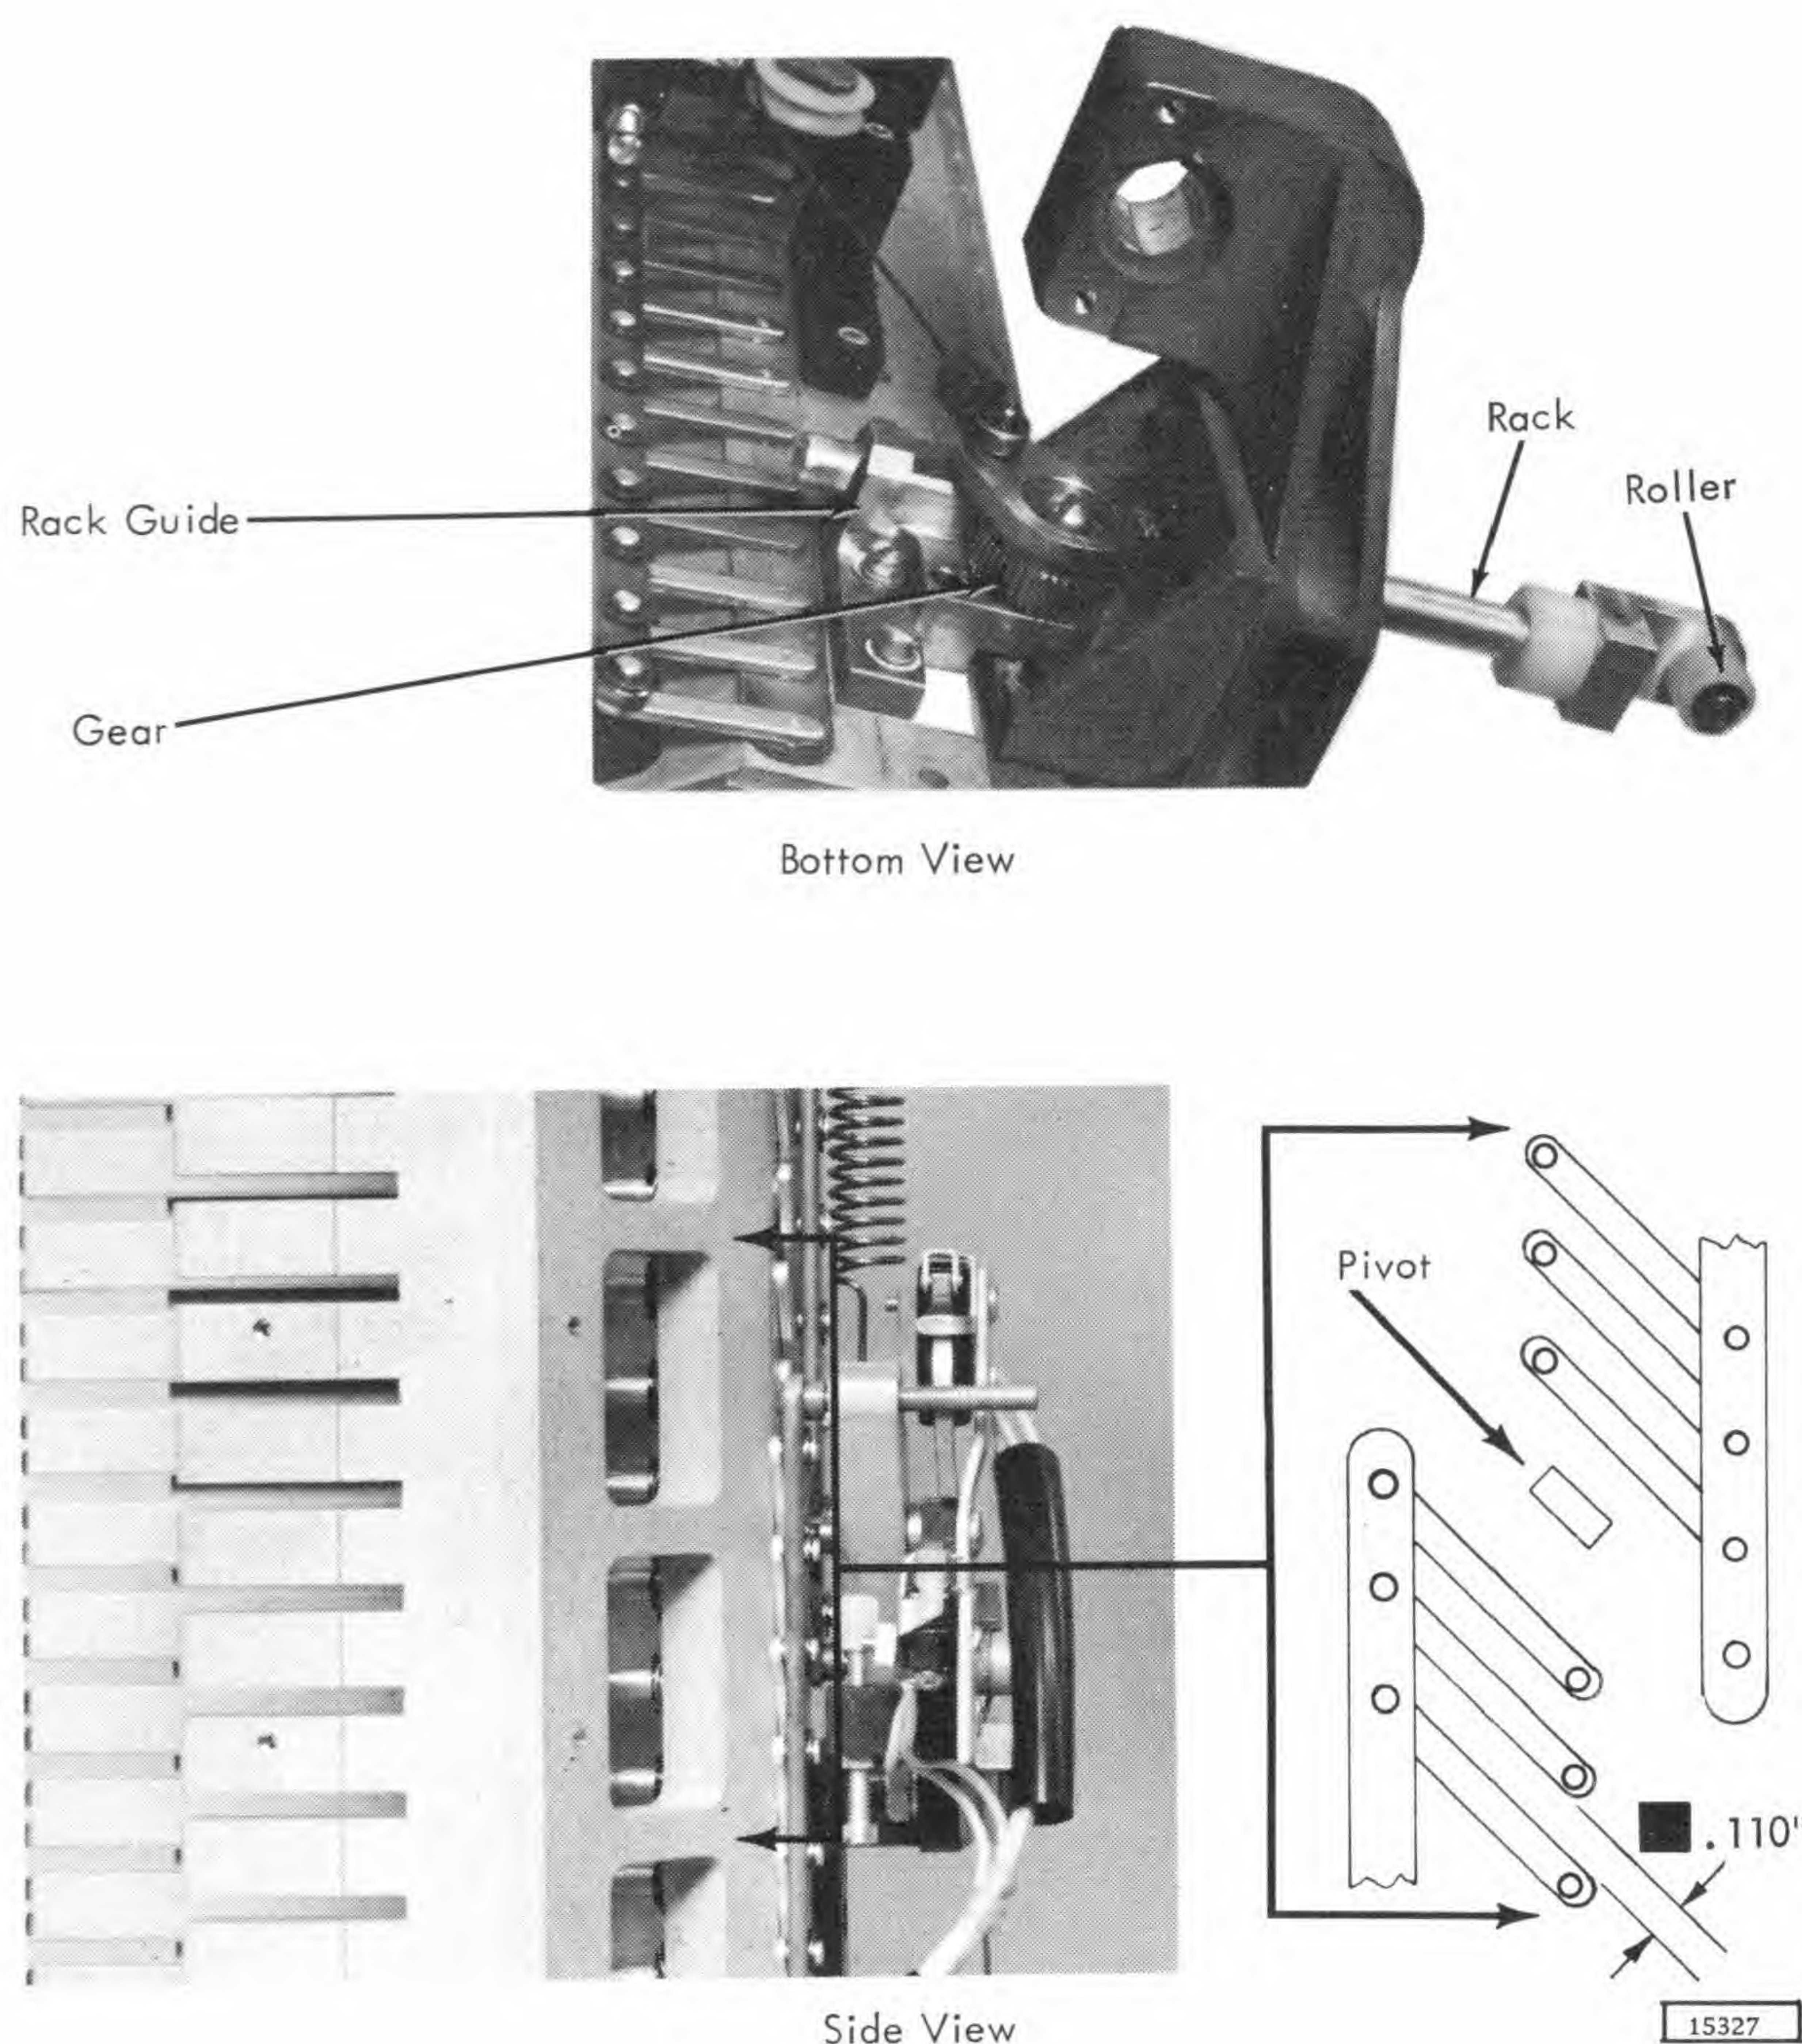

Figure 2-22. Receiver
Head Unload Check (With 4-bar linkage, Figure 2-22).
4. Place force gage (P/N 2108578) on end of rack assembly protruding from brass rack guide (Figure 2-22).
With the heads loaded and no gap at the rack, this same pair of cranks should have a clearance (.110") equal to the small end of the head-load gage (Figure 2-22). If .110" is exceeded, the cable is too long. A minimum clearance must also exist between cranks and main-drive-link pivot. If interference is noted, cable is too short (Figure 2-22).